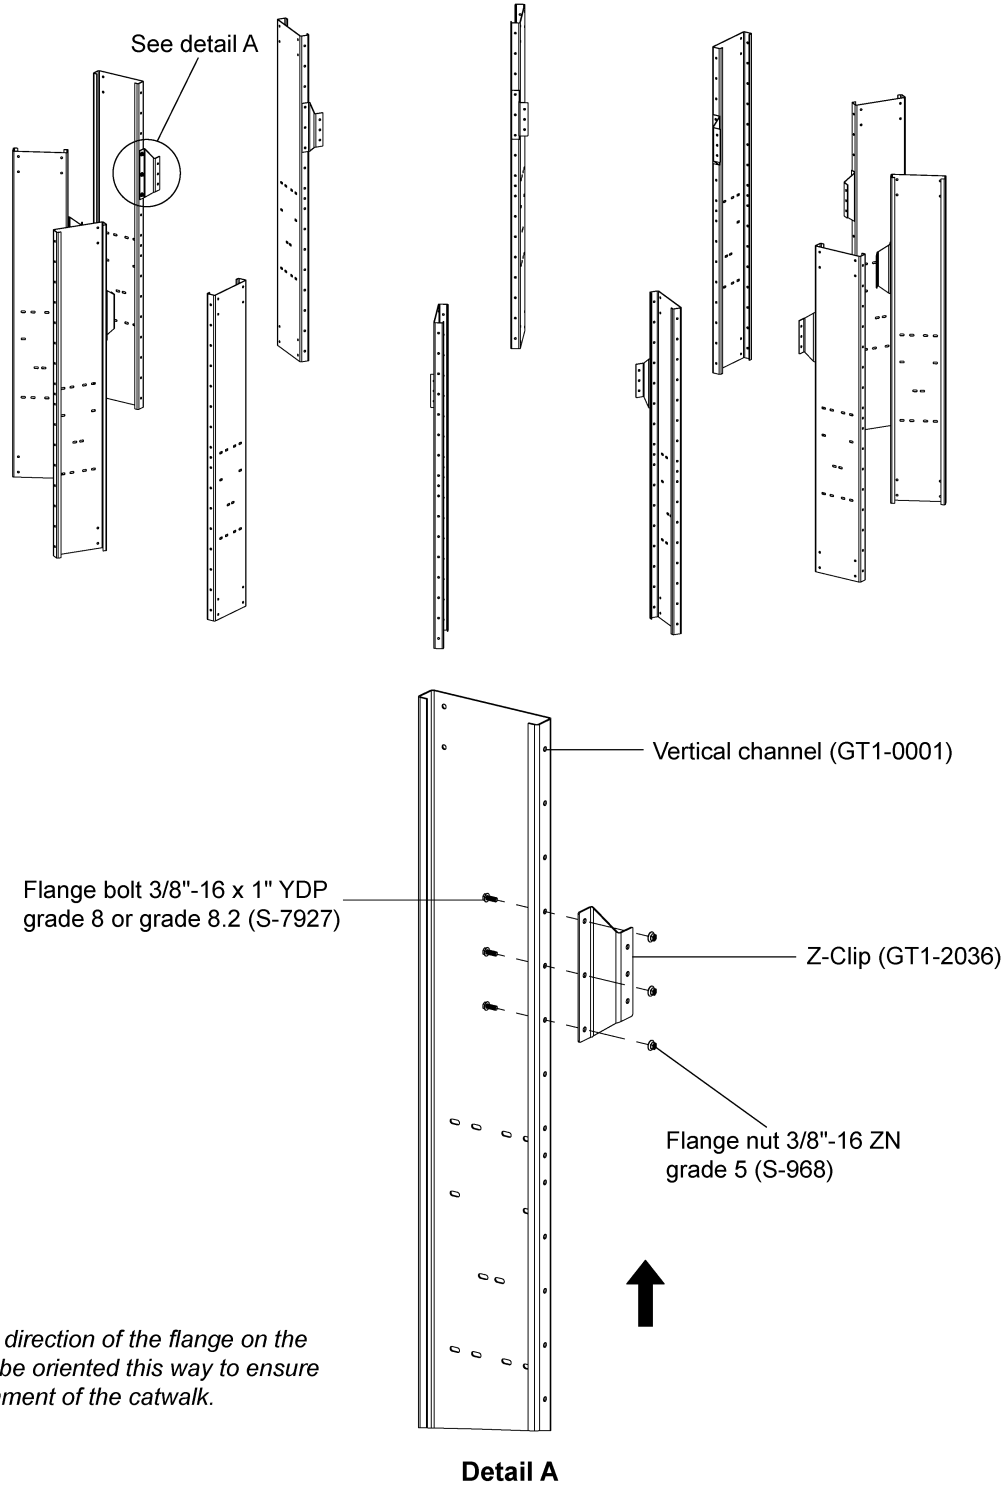

Figure 5A
1. Bolt Z-clips (GT1-2036) to all vertical channels (GT1-0001). The Z-clip can be installed on each vertical channel as inner wall sheets are installed using 3/8"-16 x 1" YDP grade 8 or grade 8.2 bolts (S-7927) and 3/8"-16 ZN grade 5 nuts (S-968). (See Figure 5A.)